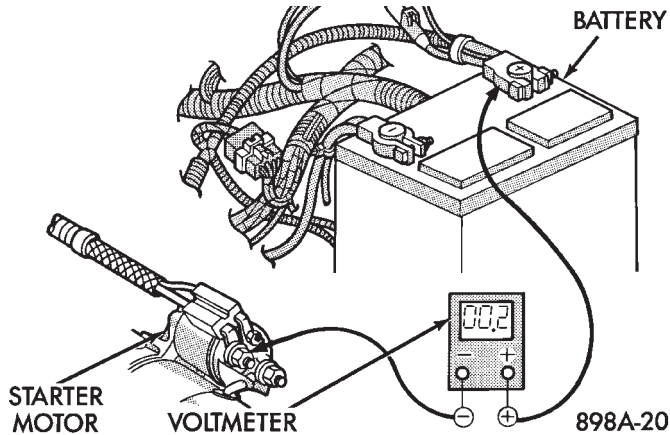

Fig. 4 Test Battery Positive Cable Resistance - Typical
(3) Connect the voltmeter to measure between the battery positive terminal post and the starter solenoid battery terminal stud (Fig. 4). Rotate and hold